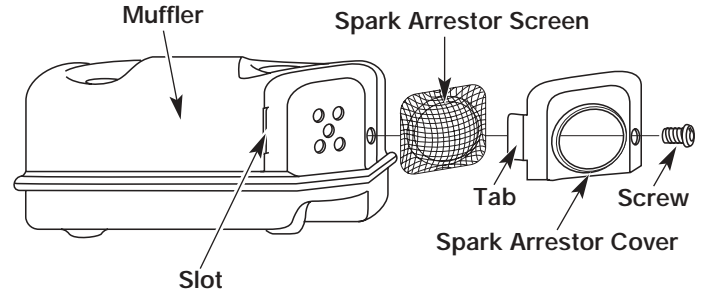

Fig. 34
2. With a flat blade screwdriver or Torx T20 bit, remove the screw attaching the spark arrester cover to the muffler (Fig. 34).